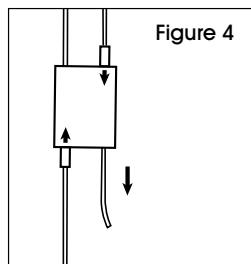

Figure 4
4. Thread cable through the other hole on cable adjuster. Height of sign holder can be determined by pulling cable through adjuster as needed. (See Figure 4)
(Voir Figure 4)